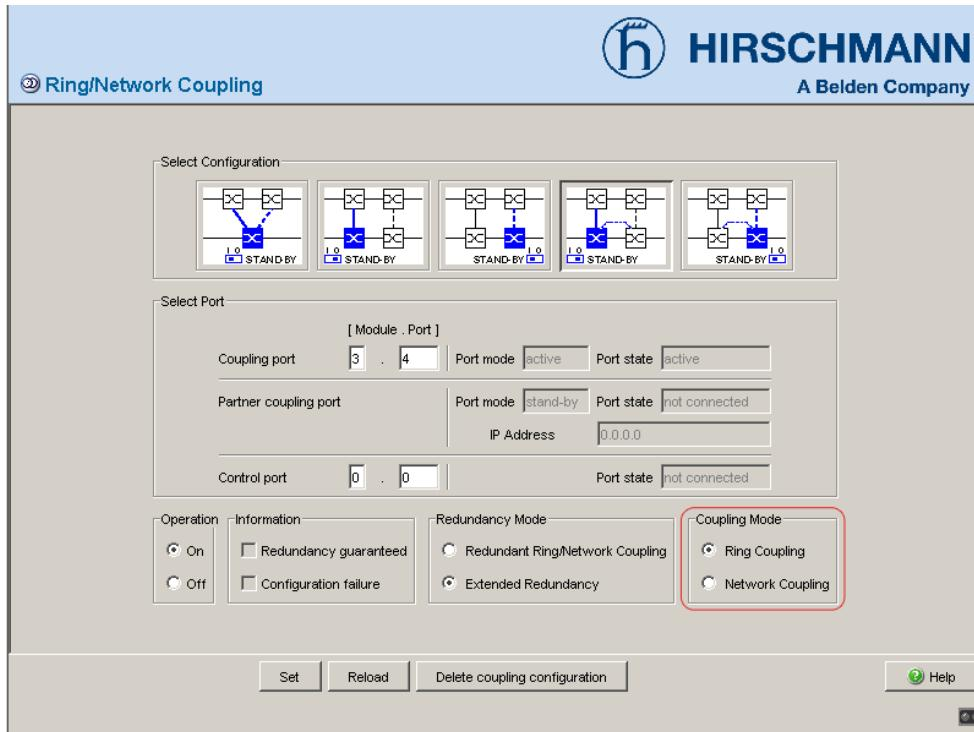

Figure 26: Selecting the coupling mode
- In the “Coupling Mode” frame, select (see fig. 26)